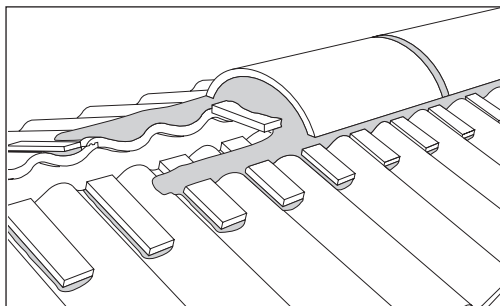

Fig 49 – Mortar bedded ridge using dentil slips for deep profiled tiles
- A mortar bed approx 10mm thick should be provided to bed the dentil onto (Fig 49).